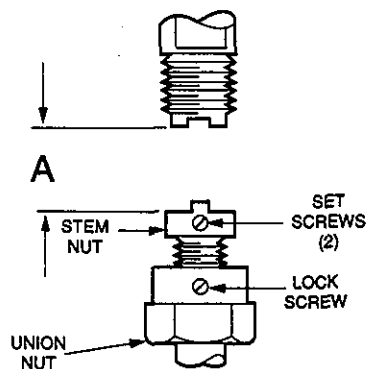

Figure 5. Stem Nut Adjustment
1. For correct seating pressure and valve lift, distance from top of stem nut to bottom of actuator shaft must be as shown (Dim. "A") in Figure 5. Dimension "A" is measured with valve stem in DOWN (closed) position and actuator shaft in UP (energized) position.
1. Loosen union nut lock screw and disengage union nut (see Figure 5).
2. Loosen union nut lock screw and disengage union nut (see Figure 5).